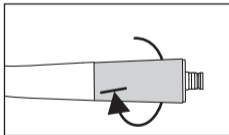

Fig. 45
- 4 Firmly tighten the taper ring (Fig. 45).